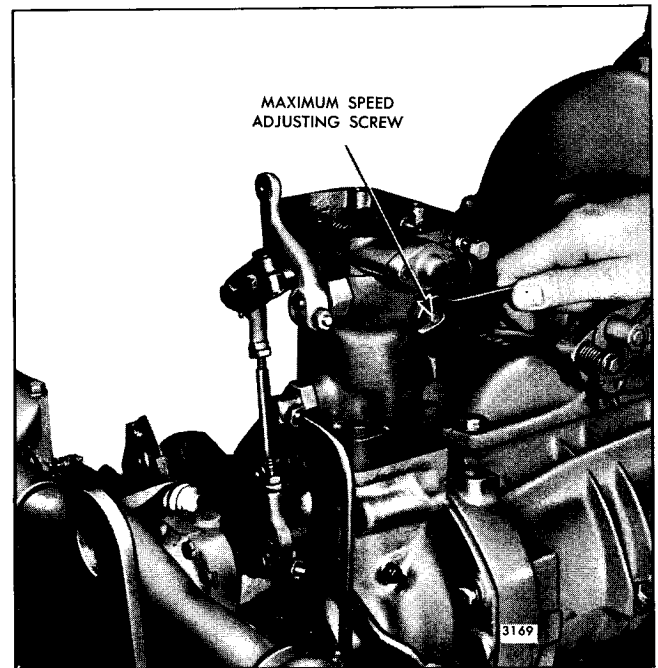

Fig. 9 - Adjusting Maximum No-Load Engine Speed
6. Loosen the lock nut on the maximum speed adjusting screw (see Fig. 9) and turn the screw out until 5/8" of the threads are exposed.
2. Turn the maximum speed adjusting screw (see Fig. 9) in until it contacts the throttle linkage internally, limiting the maximum speed of the engine at 8% above the rated full-load speed.